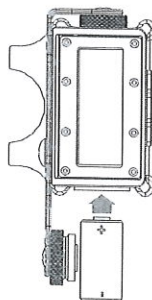

Figure 1-1
- 3. Insert a fresh battery into the case, positive end first, as shown below in Figure 1-1.